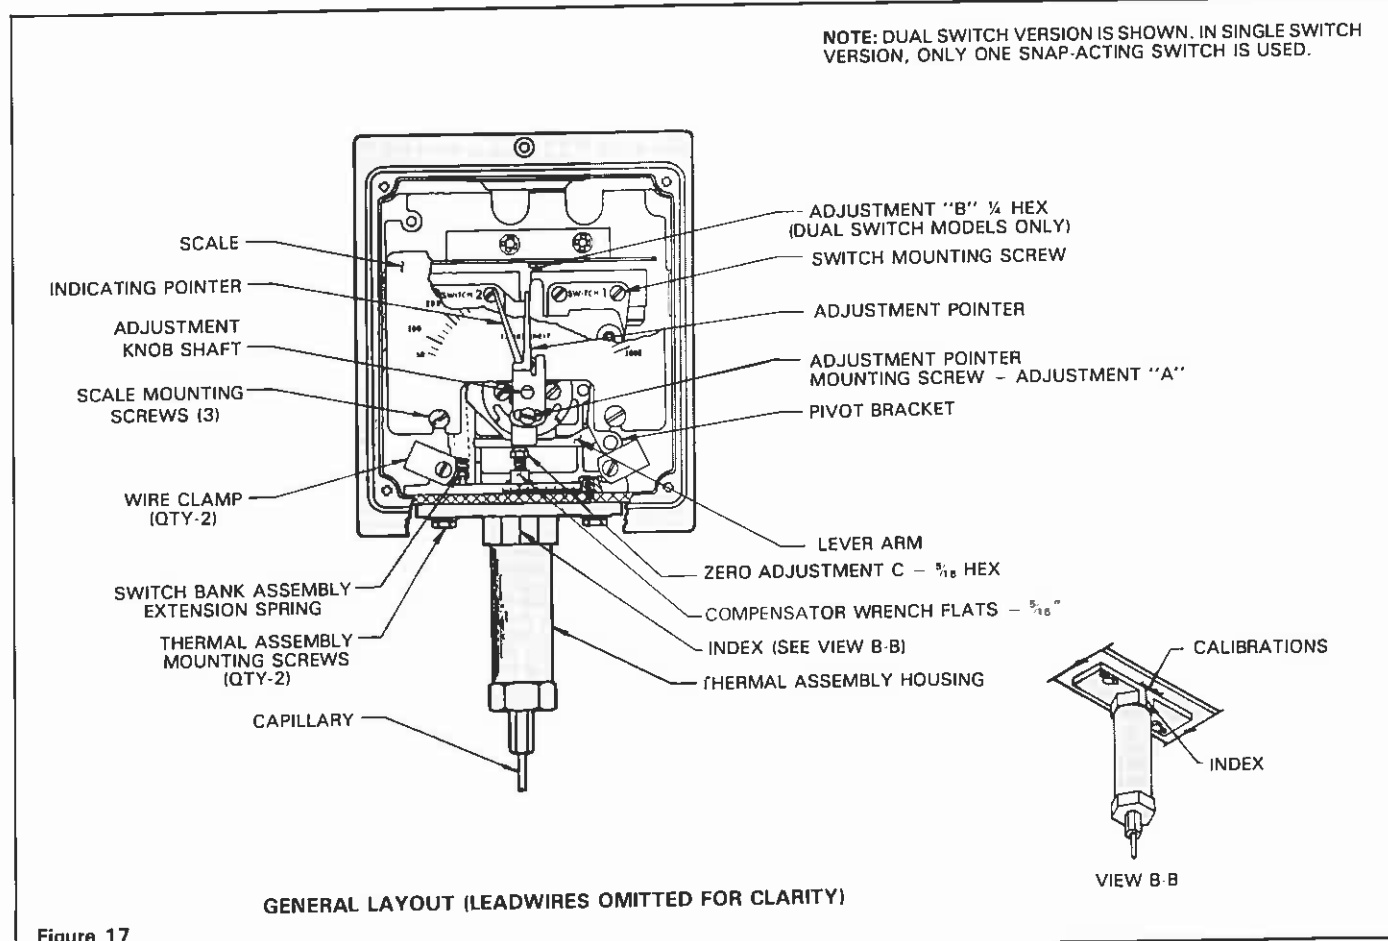

Figure 17
3. Remove setting knob and instrument cover; See Figure 17.
4. Loosen adjustment "A" (Figure 17) until the adjustment pointer agrees with the indicating pointer (when the switch "clicks").